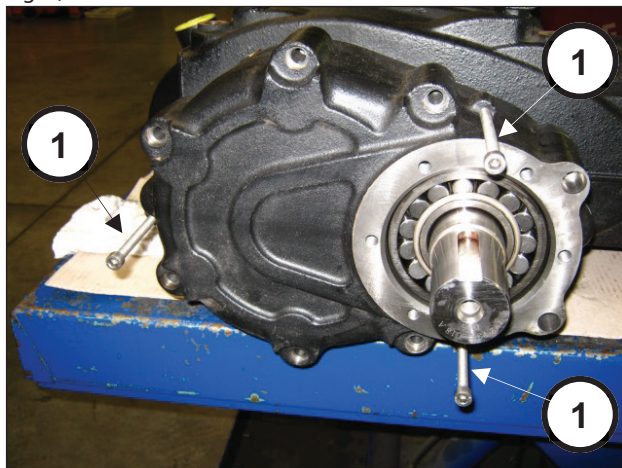

Fig. 7
Position the 3 grub screws or M8 threaded screws (pos. ①, Fig. 7) with the function of extractors in the holes.